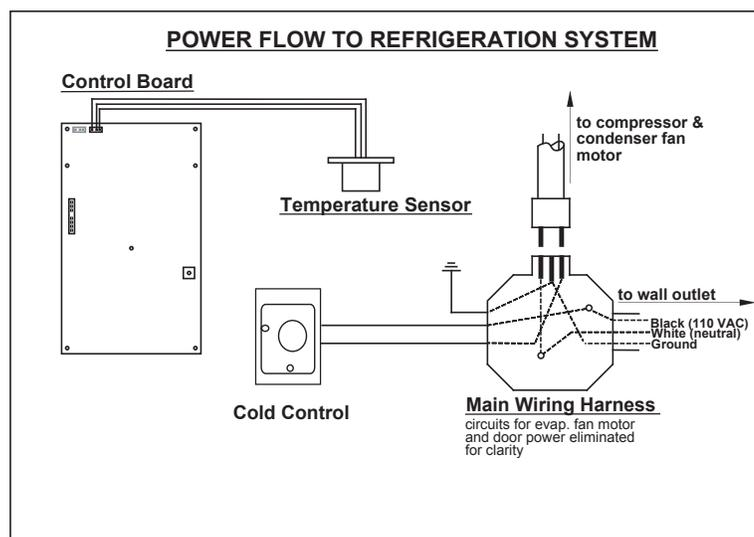

Figure 2.3
**HEALTH TIMER OPERATION:** *The rising temperature in the cooling compartment is reported to the Control Board from the Temperature Sensor. (See Figure 2.3) At power up the controller will check for the temperature. If the temperature is above 41 degrees, it will go to out of order. Once the error is cleared, a 30-minute clock will start. At the end of the 30 minutes if the temperature is 41 degrees or below, the vender will stay in normal operating mode. If the vender is 41 degrees or below upon power up it will stay in normal operating mode. If the door is open after power up and the temperature is 41 or below and stays at 41 or below. A 30-minute timer will start after the door is closed. If the temperature is above 41 degrees at the end of 30 minutes, the vender will go out of order. Anytime the vender is in a normal operating mode and the temperature reaches above 41 degrees, a fifteen-minute timer will start. If after fifteen minutes the temperature remains above 41 degrees, the vender will go out of order.*